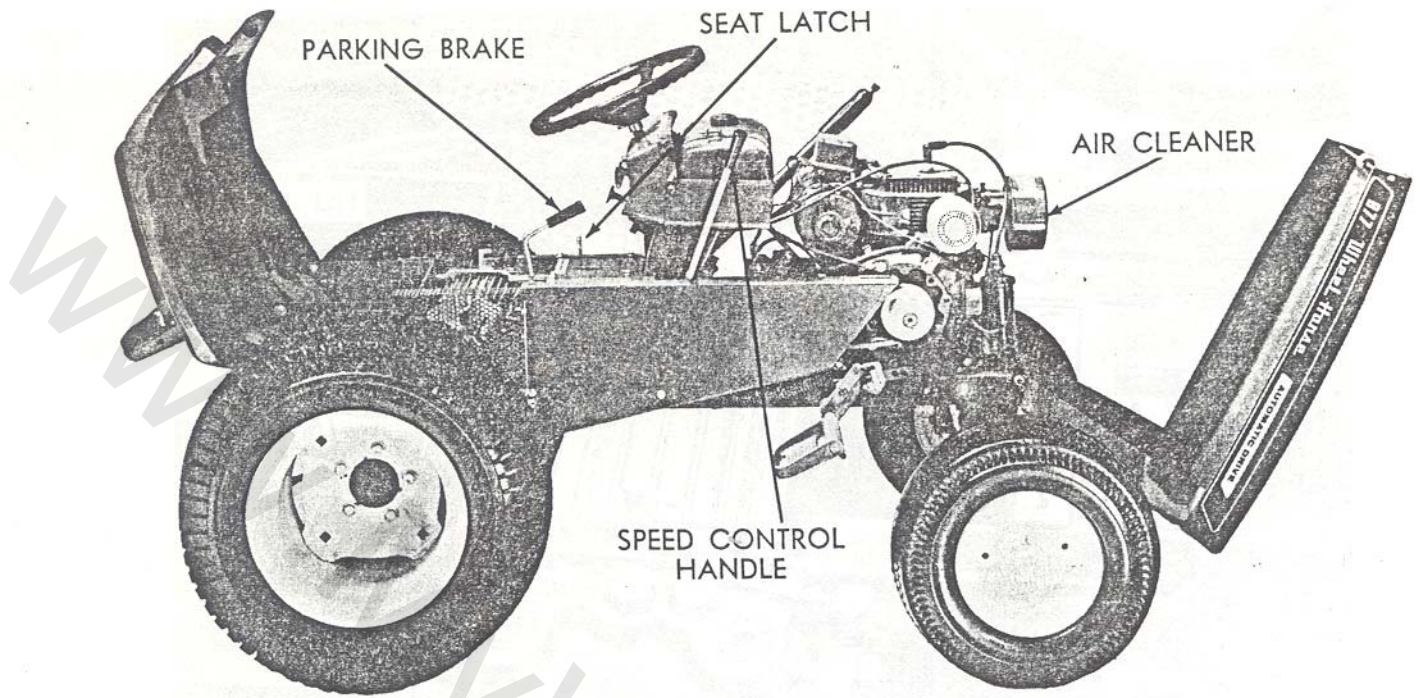

Figure 3
The parking brake is located on the right side of the tractor. (See Figure 3.) To set the parking brake pull up on the handle. The brake should always be
1. Keep tractor greased and oiled regularly. Refer to Figure 3 and 4 for the location of grease fittings. Check transmission and engine case oil levels.